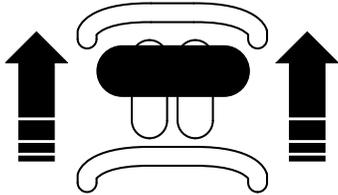

Figure 14
- To move forward, move the traction control forward (Figure 14).